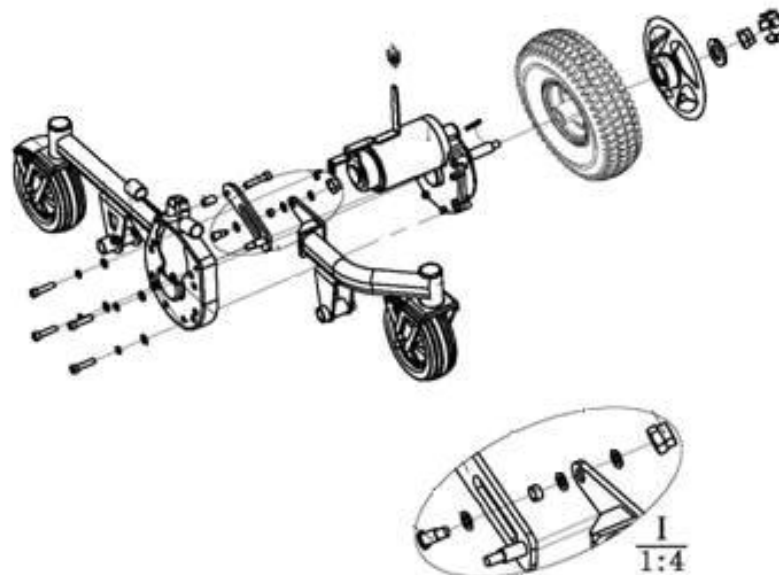

Figure 9. Drivetrain Assembly (Left side shown)
12. Remove the motor/brake assembly. See figure 9.